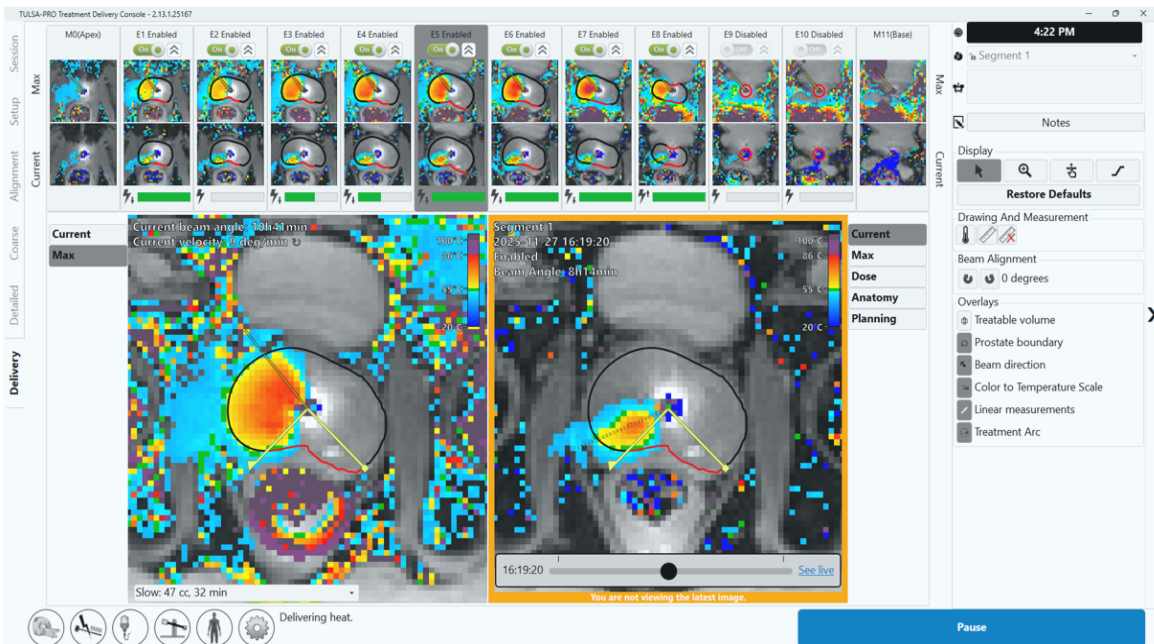

Figure 55: “You are not viewing the latest image” message below history slider
**NOTE:** When viewing images from previous timepoints, a frame around the right viewport shows that the latest images are not being viewed (*Figure 55*). A dashed line shows where the beam angle was at the previous timepoint. To return to the current timepoint, click **See live** or drag the History Slider until the framed message disappears.